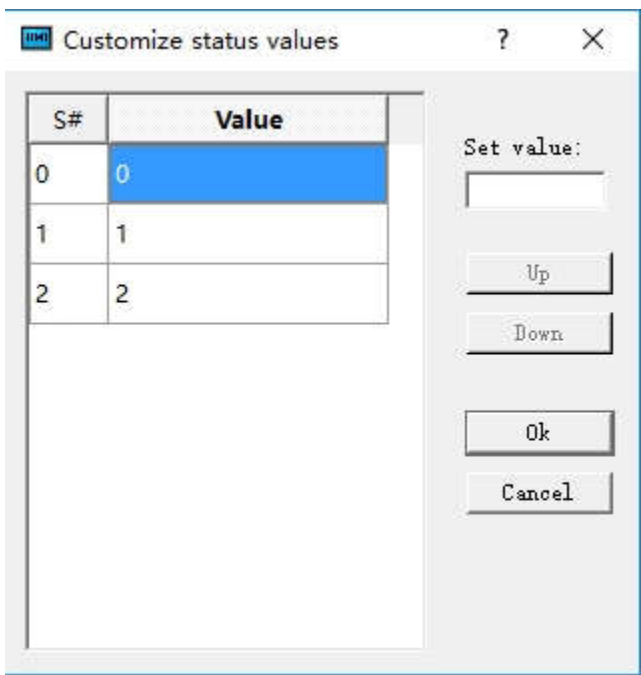

Figure 4-80 User-defined state value dialog box
- Customize status value: When user selects this option, a "Defined status value" button appears. Click it to bring up "Customize status value" dialog interface, as shown in Figure 4-80: